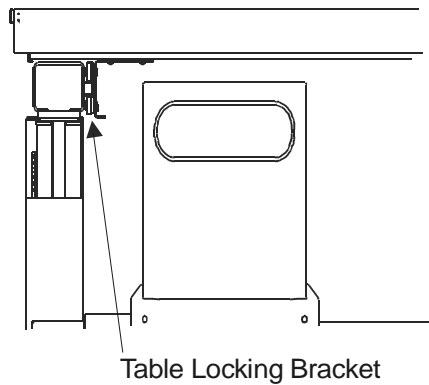

Figure 3-9. Table Locking "L" Bracket Location
2. Remove the table locking bracket located on the left side of the scanner (see Figure 3-9).
6. Remove the table locking bracket located on the left rear side of the scanner (Figure 3-9).